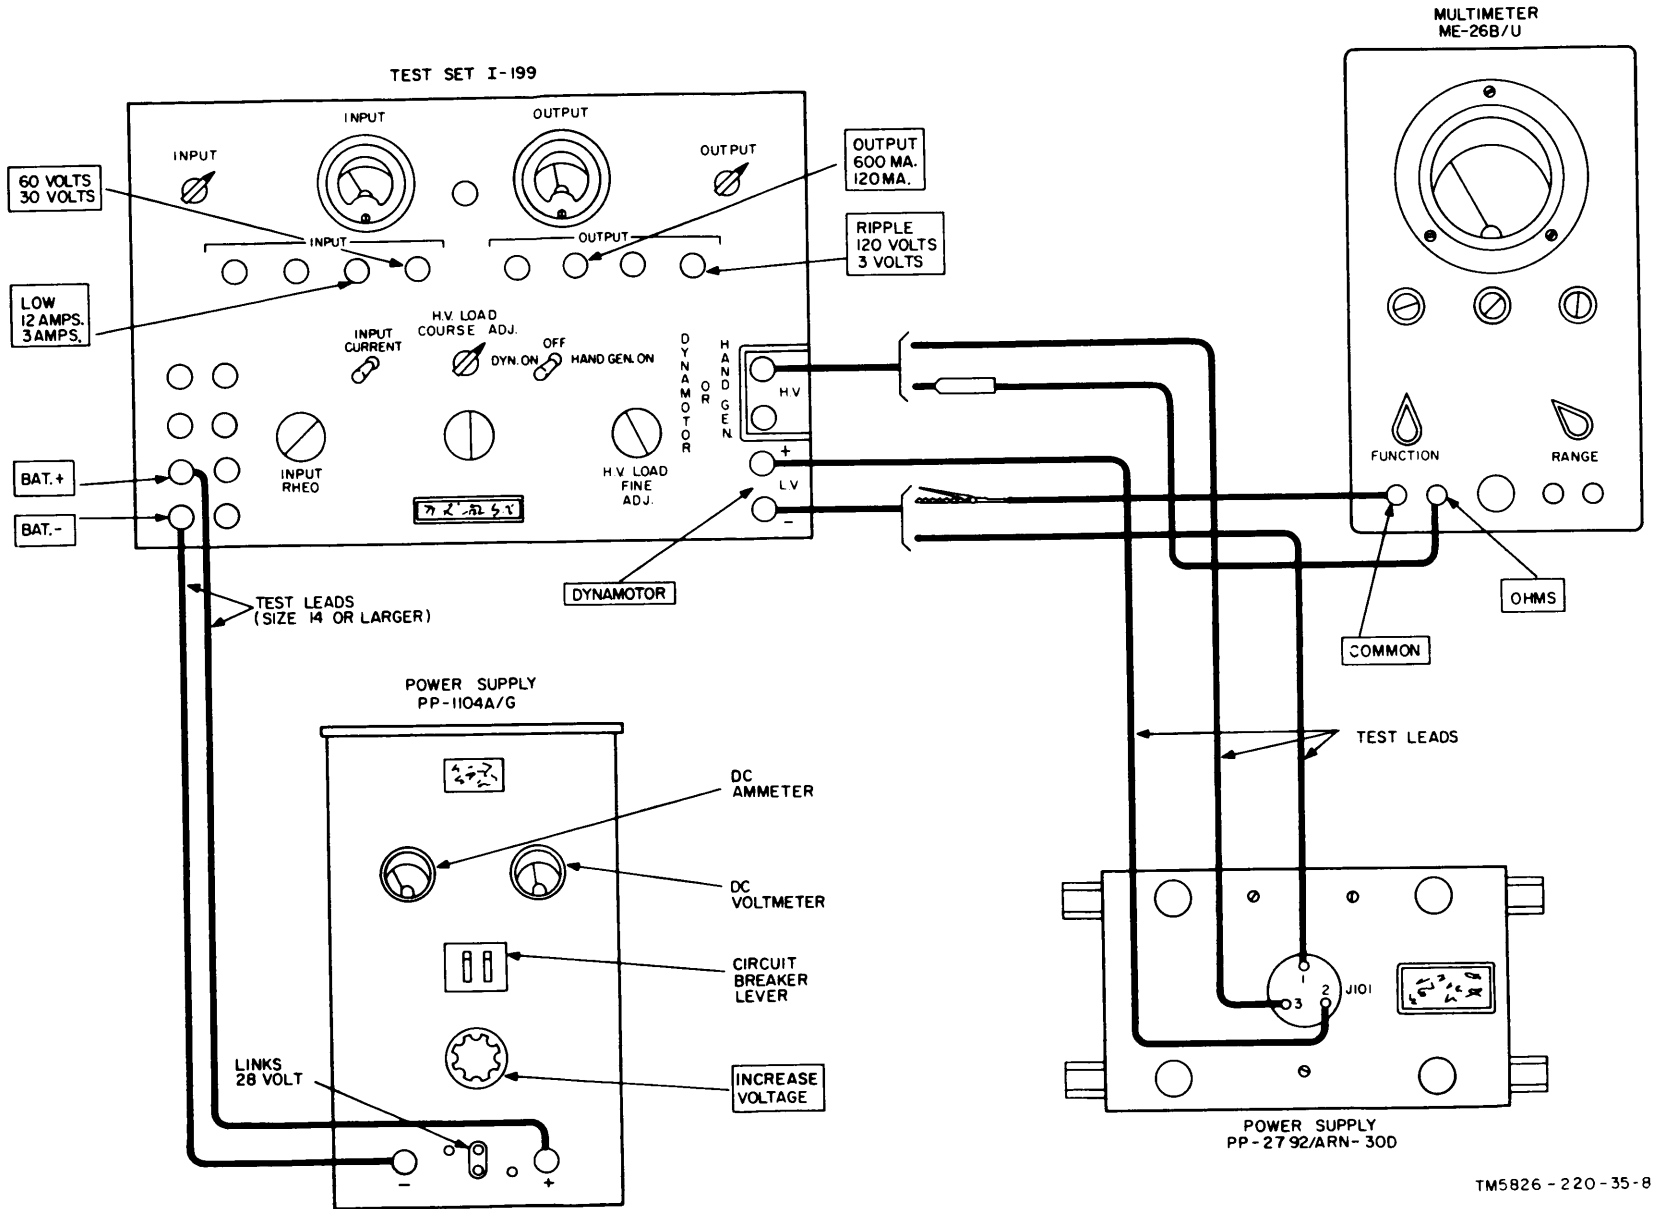

Figure 6. Power supply, performance test setup.
- (1) Power Supply PP-1104A/G.
- (2) Multimeter ME-26B/U.
- (3) Test Set I-199-A.
b. *Test Connections and Conditions.* Connect the equipment as shown in figure 6. The test leads connecting Power Supply PP-1104A/G to Test Set I-199-A must be size 14 or larger (smaller wire gage number) and as short as possible.